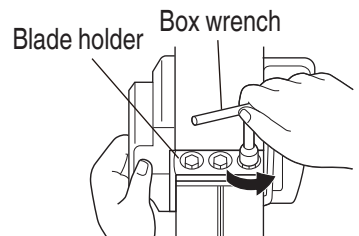

Fig. 4
- (1) As shown in **Fig. 4**, loosen the blade holder with the attached box wrench.